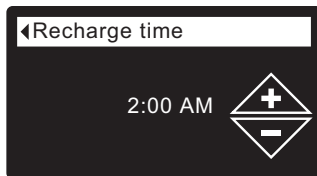

FIG. 103
5. Press the SELECT (O) button to display the Recharge time screen (See Figure 103).